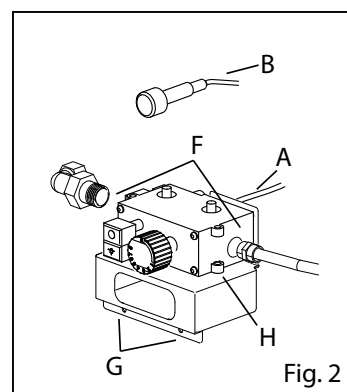
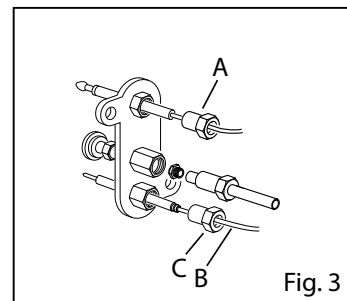

Fig. 2
Fig. 3
- Open the cut-off cock upstream the equipment (Fig. 2);
- Reassemble the screw with gas seal washer in the appropriate seat, open the cut-off cock upstream the machine (Fig. 2) and check by turning the burner on, that there are no gas leakages.
- Demount if necessary, the plugs in order to avoid to damage it during the injector replacement (Fig. 2).
- Unscrew the injector (Fig. 3)
- Remove the thermocouple from the valve (Fig. 2/A) and the pilot group (Fig. 3/A)
- Disconnect the high voltage cable of the plug (Fig. 3/B)
- Unscrew the nut (Fig. 3/C)
- Connect the high voltage cable (Fig. 3/B)
- Disconnect the cable from the piezoelectric igniter (Fig. 2/B)
- Unscrew the thermocouple and the gas inlet / outlet connections (Fig 2/F)
- Unscrew the support and the valve (Fig. 2/G)
- Remove the valve support (Fig. 2/H)